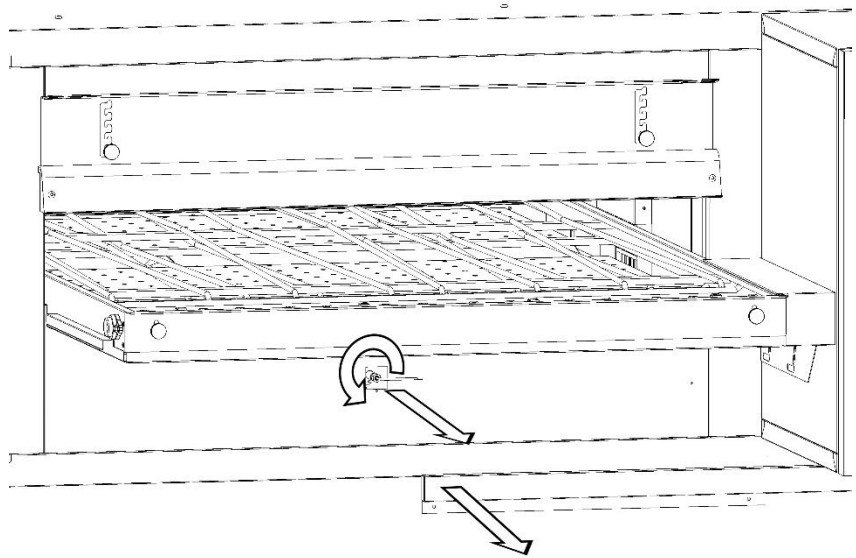

Fig.10B
- 4.Remove the protecting carter of the probe (Fig.10B).
- 4.Using a wrench 12 loosen the mounting nut of the support and remove the probe (Fig.10B).